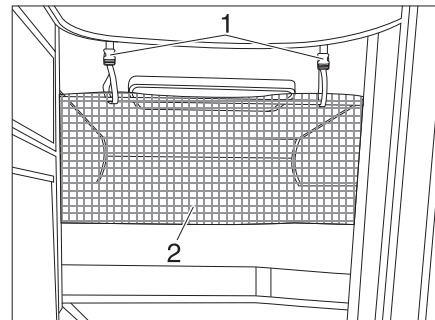

Fig. 151 Safety net
The safety net (Fig. 151, 2) is stored as standard between the mattress and slatted frame. Do not use the safety net until the person is already in bed.
- Fasten the retaining straps (Fig. 151, 1) to the holders on the ceiling.
Safety net The safety net (Fig. 151,2) is stored as standard between the mattress and slatted frame. Do not use the safety net until the person is already in bed.
Setting up: ■ Fasten the retaining straps (Fig. 151,1) to the holders on the ceiling.